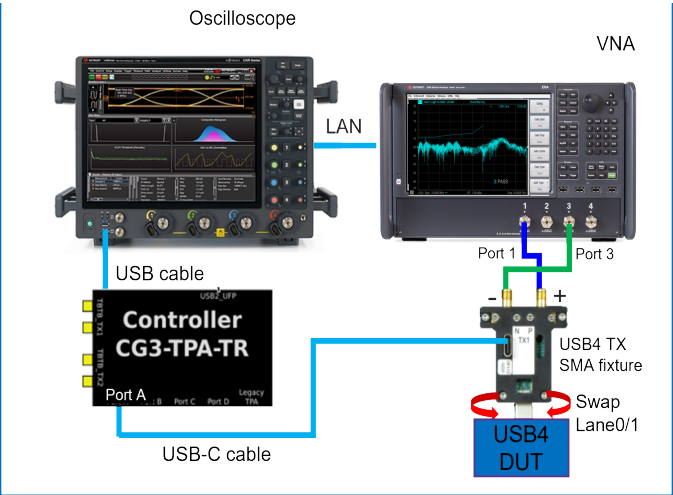

Figure 206 Tx Return loss test setup with Tx SMA test fixture
- 1 For the physical connections between the DUT & the Oscilloscope, see the connection diagrams in Figure 206 and Figure 207.